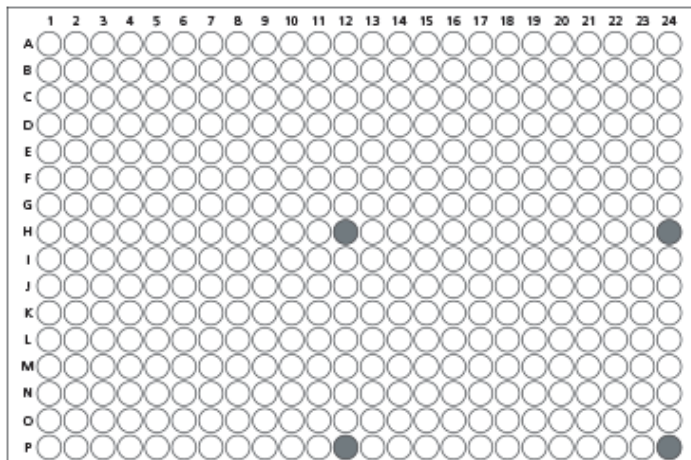

Figure 1. 384-Well Plate Diagram Indicating Wells Containing TBP qPCR Control Cocktail
- 10 μ L TBP qPCR Control Cocktail in each of wells H12, H24, P12, and P24 (see Figure 1)